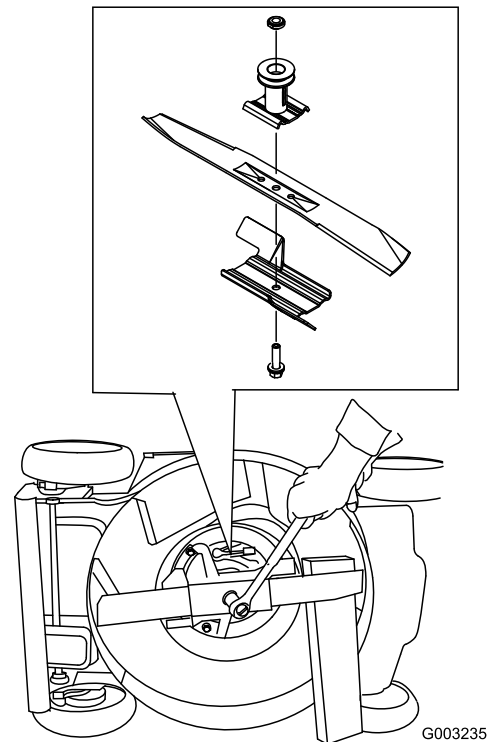

Figure 42
3. Use a block of wood to hold the blade steady (Figure 42).